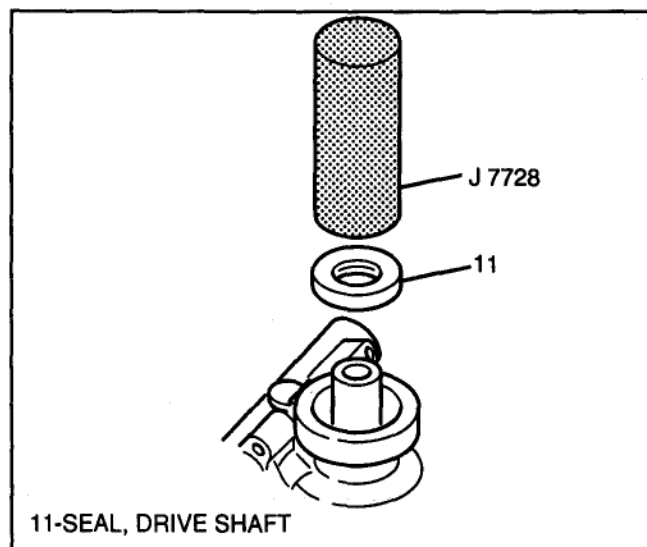
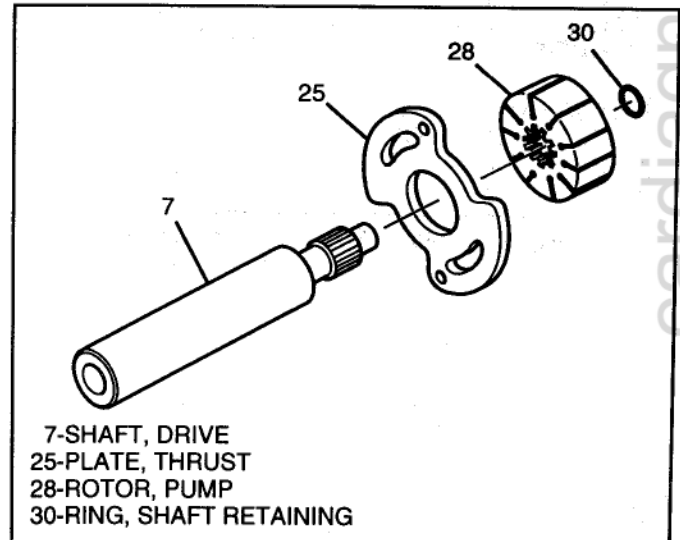
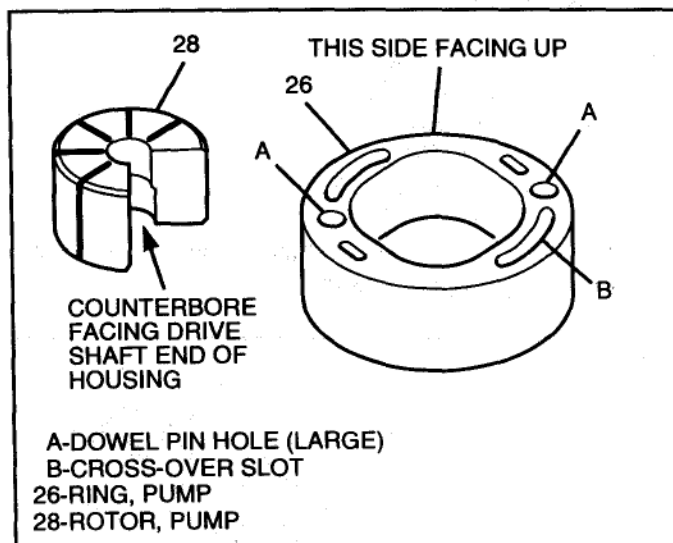
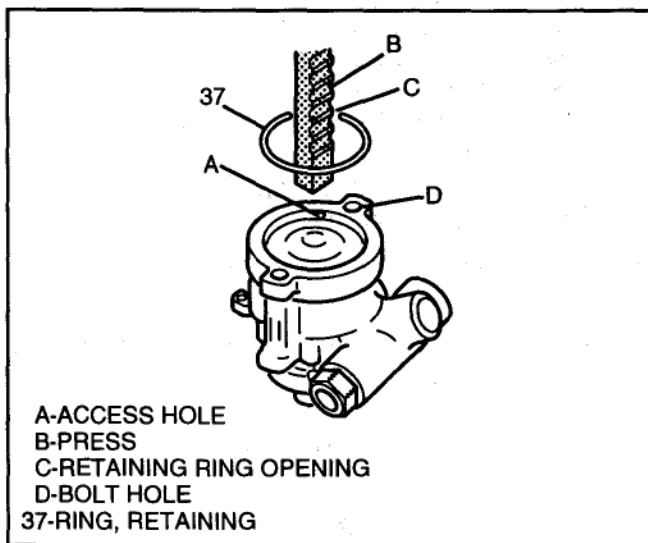

Figure 4 Seal Installation
Figure 6 Retaining Ring Installation (Shaft)
Figure 7 Rotor or Pump Ring Installation
Figure 8 Retaining Ring Installation (Housing)
1. New drive shaft seal (11), lubricated with power steering fluid, using tool J 7728 (see Figure 4).
1. Lubricate new drive shaft seal (11) with power steering fluid.
- Drive shaft seal (11) into pump housing (10) with tool J 7728 (see Figure 4).
2. Pump ring dowel pins (6) into pump housing (10).
3. Thrust plate (25) and pump rotor (28) to drive shaft (7) (see Figure 6).
4. New shaft retaining ring (30) onto drive shaft (7).
5. Drive shaft sub-assembly into pump housing (10).
6. Vanes (27) into pump rotor (28).
7. Pump ring (26), with holes positioned correctly onto dowel pins (6), in pump housing (10) (see Figure 7).
8. Lubricate new O-ring (32) with power steering fluid.
- O-ring (32) into groove in pump housing (10).
9. Pressure plate (31).
10. Pressure plate spring (33).
11. Lubricate new O-ring (35) with power steering fluid.
- O-ring (35) into end cover (36).
12. Lubricate outer edge of end cover (36) with power steering fluid.
13. Press end cover (36) into pump housing (10).
14. Retaining ring (37) into groove in pump housing (10), with ring opening near access hole in pump housing (see Figure 8).